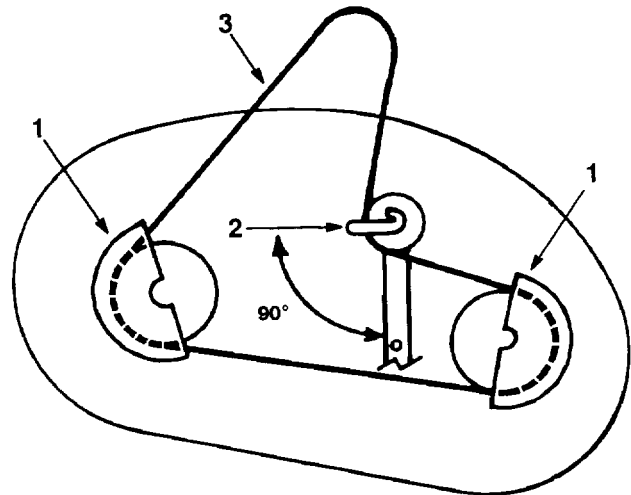

Figure 47
2. Remove the pulley cover mounting screws and pulley covers from both blade pulleys (Fig. 47).
3. Loosen, but do not remove the bolt and nut securing the idler pulley and belt guide (Fig. 47).
2. Position the idler pulley belt guide so it points toward the left,  $90^\circ$  to the idler arm (Fig. 47). Tighten the mounting bolt and lock nut securing the idler pulley and belt guide.
3. Install the left and right pulley covers with the mounting screws (Fig. 47).